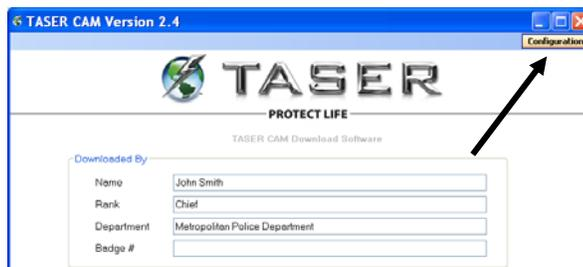
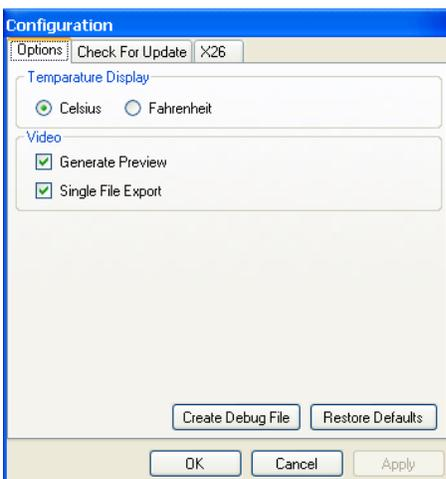

Figure 28
Figure 29
1. Click the **Configuration** button (Figure 28). The Configuration dialog box displays (Figure 29).